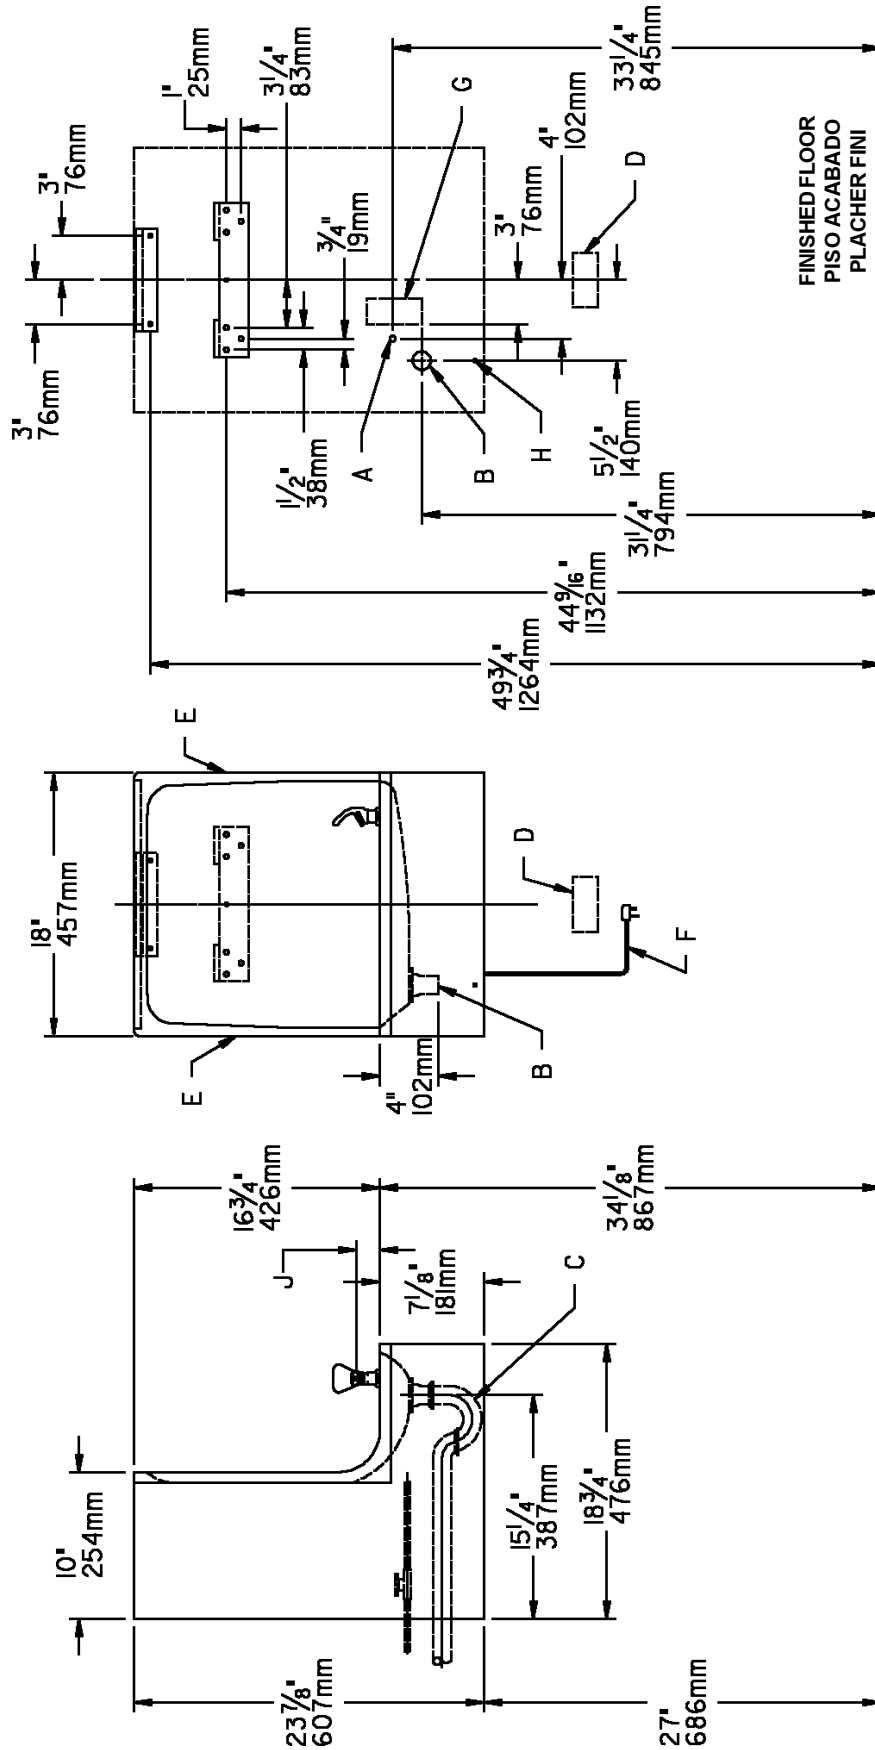

FIG. 2
- 1) Remove hanger bracket fastened to back of cooler by removing one (1) screw.
- 2) Mount the hanger bracket and trap as shown in Figure 2. **NOTE:** Hanger Bracket MUST be supported securely. Add fixture support carrier if wall will not provide adequate support.
- 4) Hang the cooler on the hanger bracket. Be certain the hanger bracket is engaged properly in the slots on the cooler back as shown in Figure 2.
- 5) Loosen the two (2) screws holding the lower front panel at the bottom of cooler base and two (2) screws at the top. Remove the front panel and set aside.